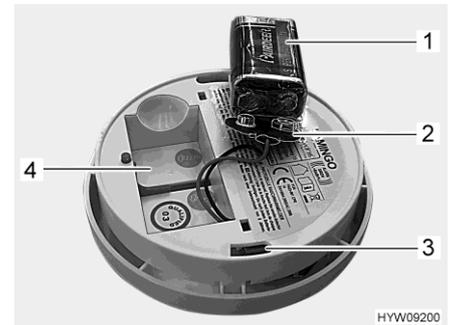

Fig. 157 Smoke alarm (rear side)
- Remove the battery and disconnect it from the battery clip (Fig. 157,2).
- Connect the new battery (Fig. 157,1) at the battery clip (Fig. 157,2). When doing so, make sure that the battery poles engage on the battery clip.
- Place the battery into the battery compartment (Fig. 157,4).
- Place the smoke alarm (Fig. 158,1) onto the holder (Fig. 158,3). The holding lugs (Fig. 158,2) must engage in the openings (Fig. 157,3) in the smoke alarm.